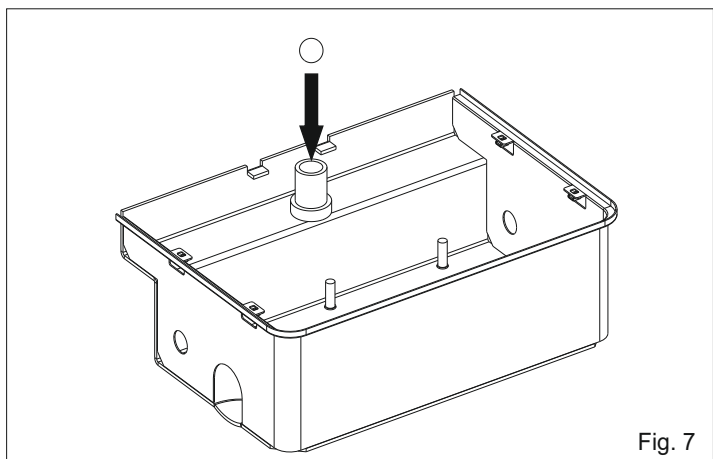
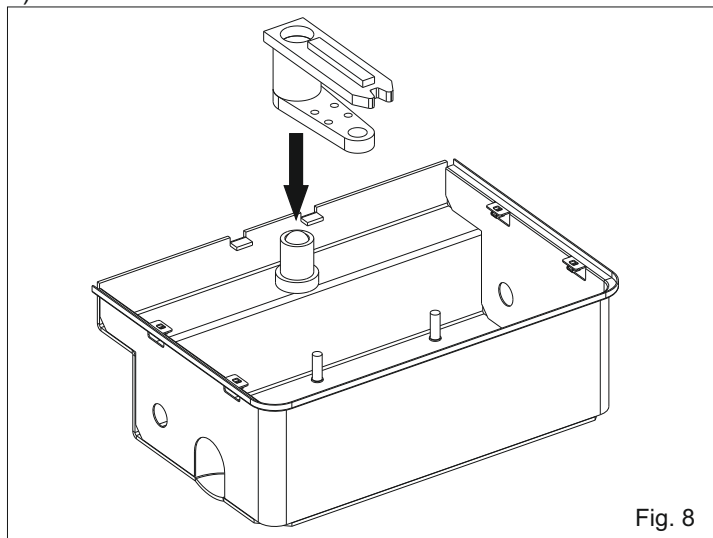
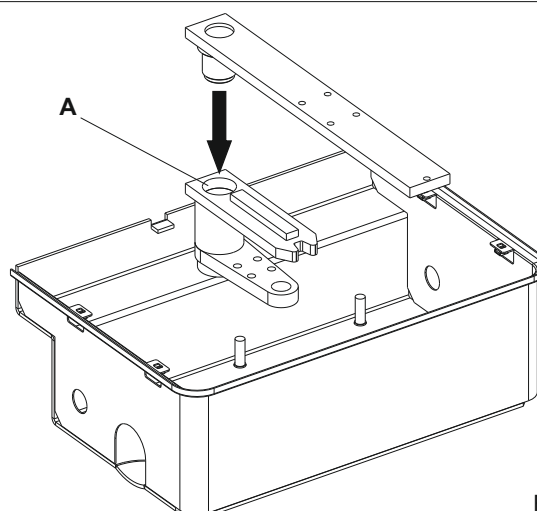

Fig. 7
Fig. 8
Fig. 9
2.4. Insert the ball into the perforated shaft (Fig. 7)
2.5. Insert the handle bar device into the perforated shaft (Fig. 8)
2.6. Grease plentifully the hole A and insert the leaf device (Fig. 9)
N.B.: During the insertion of the units lubricate them with the supplied grease (Fig. 7, Fig. 8, Fig. 9).